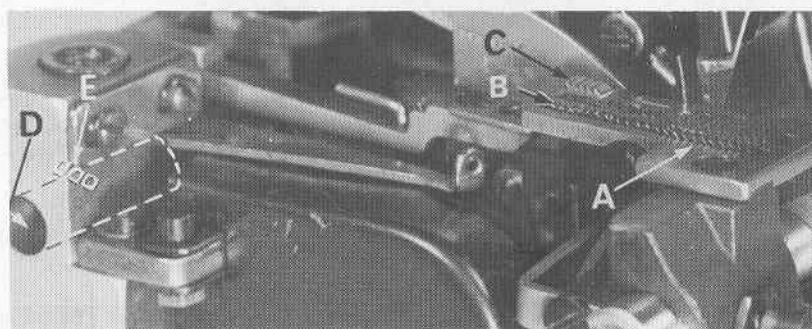

Fig. 12
Now assemble differential (front) feed dog (A, Fig. 12), if not already in place, main (back) feed dog (B) and chaining feed dog (C).
On Styles 39500 QA, RS and TD, set all three feed dogs (A, B, C, Fig. 12) so the top surfaces of teeth all lay in the same plane. This can be checked by sighting across teeth with a straight edge. Now assemble throat plate. Feed dogs should now be levelled with throat plate surface by rotating feed tilting adjusting pin (D). This pin raises or lowers the back end of both feed bars at